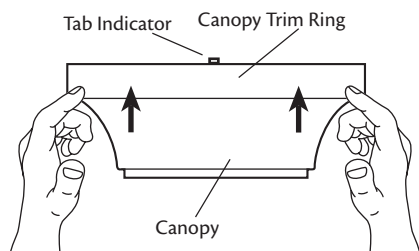

Figure 19 - Removing the canopy trim ring
- Locate the tab indicators, small bumps on top of tabs. Refer to Figure 19.
- To remove the canopy trim ring, press firmly on opposite sides of the ring towards the canopy as shown in Figure 19. The tabs will flex out releasing the trim ring from the canopy.